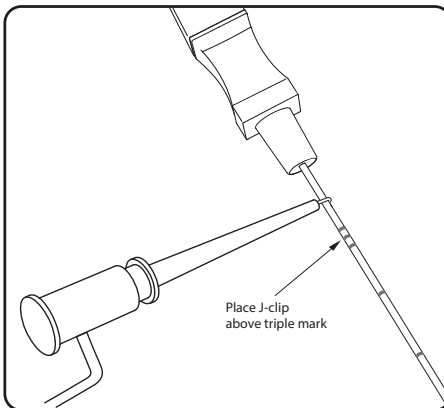

Figure 6. Connect needle test stimulation cable to the foramen needle
3. Attach the clip end of the needle test stimulation cable to the non-insulated section of the foramen needle (just below hub and above the triple dash mark on the foramen needle) (Figure 6).